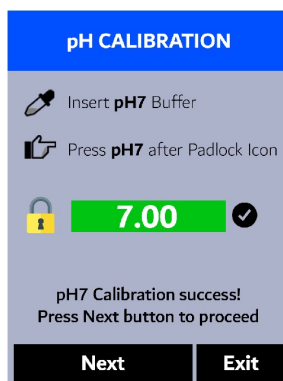

Figure 26.
9. If the calibration succeeds, a checkmark (**✓**) and a "pH7 Calibration success!" message will appear (Figure 26). Otherwise, a warning message is displayed.